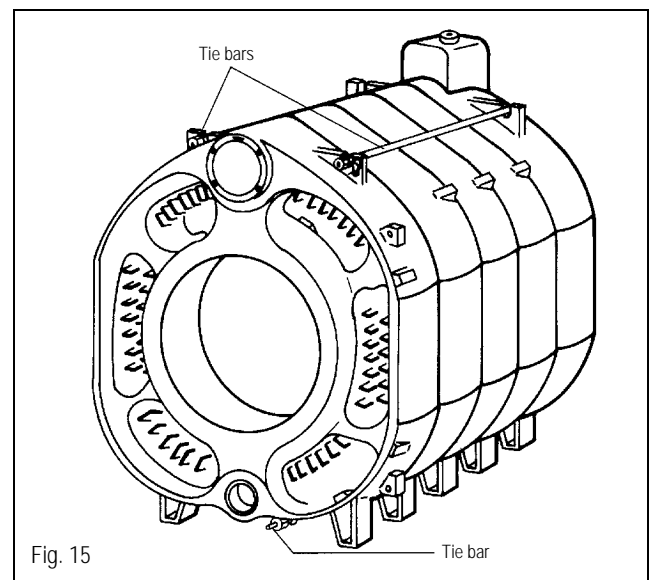

Fig. 15
- Install tie bars in the cast iron slots on the left and right sides of the upper and lower nipple ports (Fig. 15).